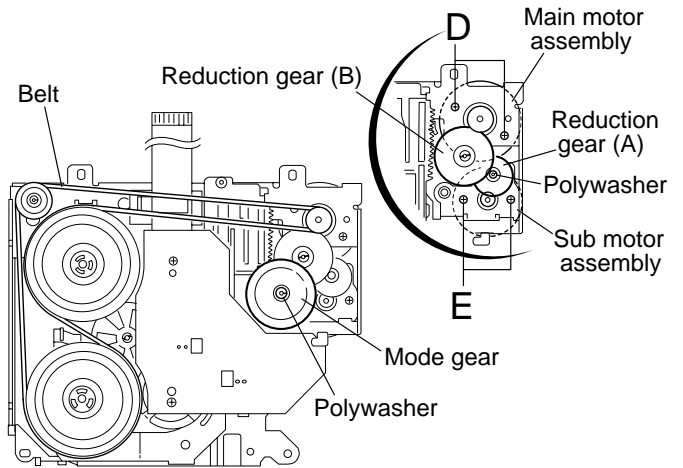

Fig.40
**■Removing the main motor assembly / sub motor assembly (See Fig.40 to 42)**
3. Pull out the reduction gear (B).
4. Remove the polywasher and pull out the reduction gear (A).